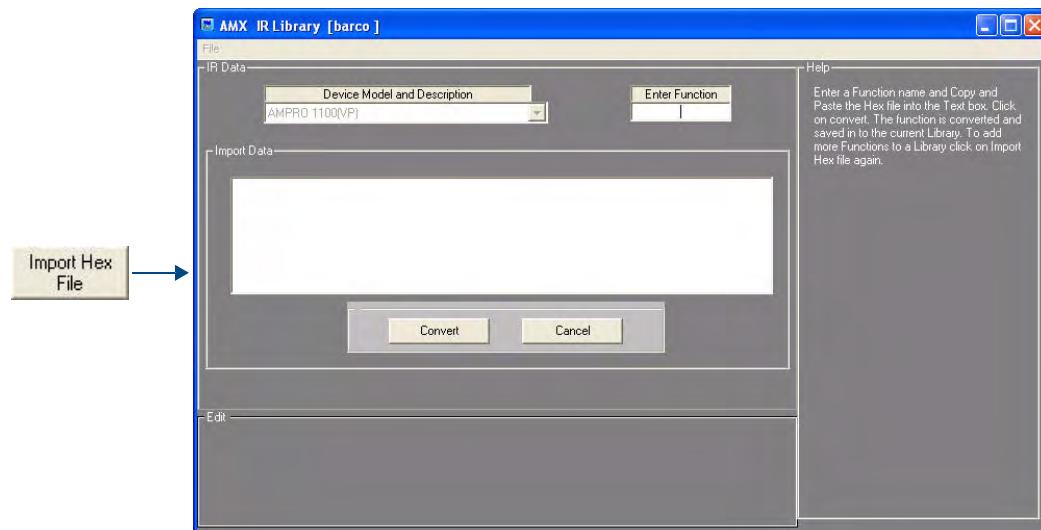

FIG. 53 AMX Library Files dialog - Hex data import and conversion options
1. In the Edit Options window of the AMX Library Files dialog, click **Import Hex File** to access the Hex data import and conversion options (FIG. 53).
5. In the Edit Options window of the AMX Library Files dialog, click **Import Hex File** to access the Hex data import and conversion options (FIG. 53).